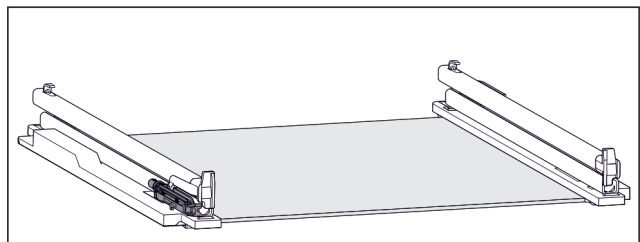

Fig. 119 Damping mechanism
- The damping mechanism is attached to the left rail. (see Fig. 119) There is no damping mechanism attached to the right rail.